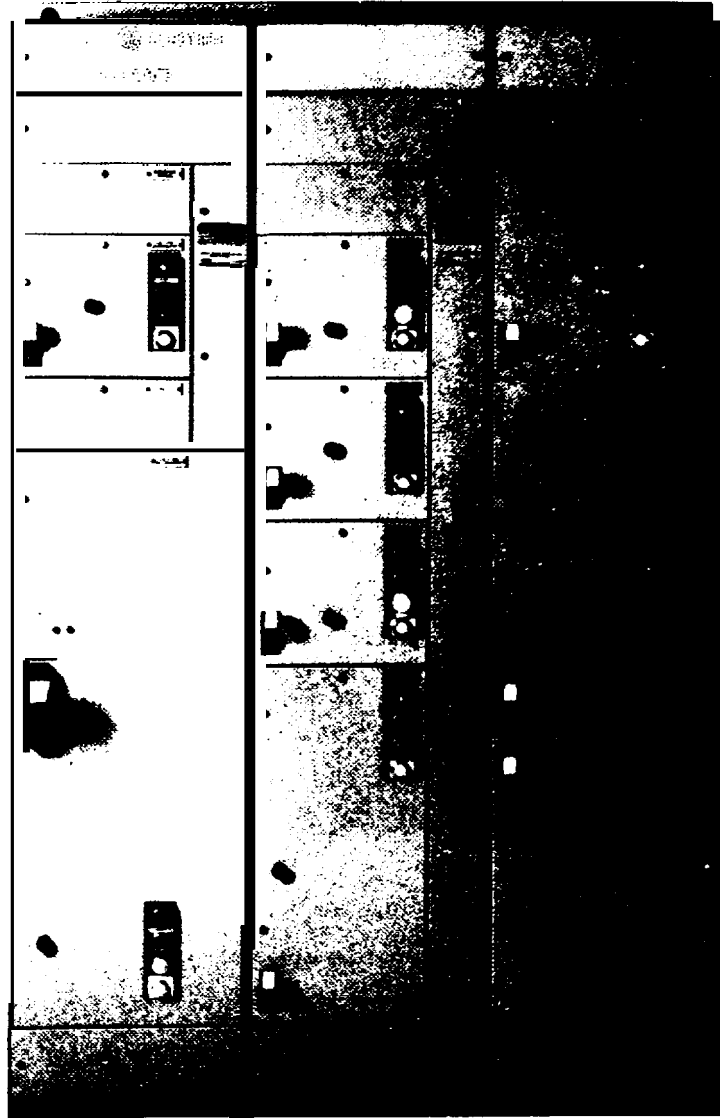

*Figure 5-8. Solid-state starter*
(5) *Solid-state starters.* Solid-state starters (fig 5-8) provide smooth, stepless acceleration of squirrel cage motors from standstill to full speed. It provides extended starting times by supplying continuously varying voltage to the AC motor from zero to full voltage. Controlled starting of a standard squirrel cage motor is accomplished by supplying reduced voltage to the motor terminals. This reduced